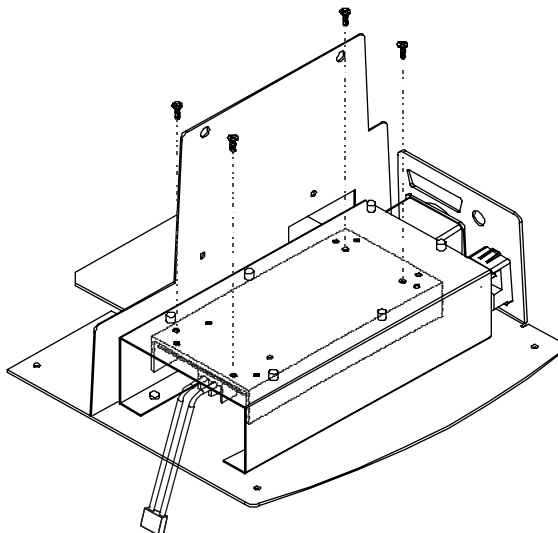

Figure 5-7. Power Supply Removal.
5. While holding the Power Supply in place, remove the four screws securing it to the Power Supply Bracket. See Figure 5-7.